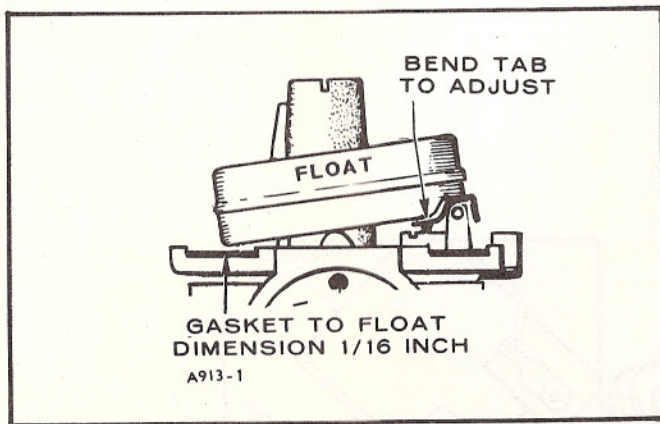

FIGURE 7. ADJUSTING FLOAT LEVEL
Check the adjusting needles and nozzle for damage. If float is loaded with fuel or damaged, replace it. The float should fit freely on its pin without binding. Invert the carburetor body and measure the float level, Fig. 7.
6. Check the float level with the carburetor casting inverted. See Fig. 7.
To check float level, remove the entire main fuel adjustment assembly from the float bowl (unscrew large nut from float bowl - Fig. 7). The proper level from the float to the gasket should be 1/16" with the valve spring compressed. The float tab should just touch the fuel inlet valve and not compress the inlet valve spring. Adjust by bending the tab on the float. **NOTE: Do not apply excessive pressure to float valve.**